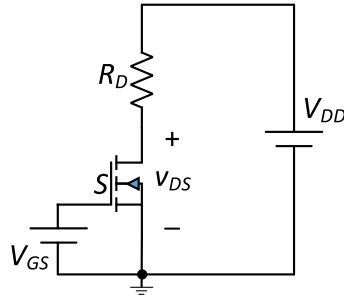

Figure 48.1 Circuit schematic to determine the electrical characteristics of the MOSFET.
1. Construct the circuit as shown in Figure 48.1 on the circuit simulator. Use a drain resistance R_D of $1\ \Omega$. Use IRF540 n-channel power MOSFET. Provide $V_{GS} = 5\ \text{V}$ and $V_{DD} = 10\ \text{V}$.
1. Consider the circuit shown in Figure 48.1. Provide $V_{GS} = 5\ \text{V}$ and $V_{DD} = 10\ \text{V}$.